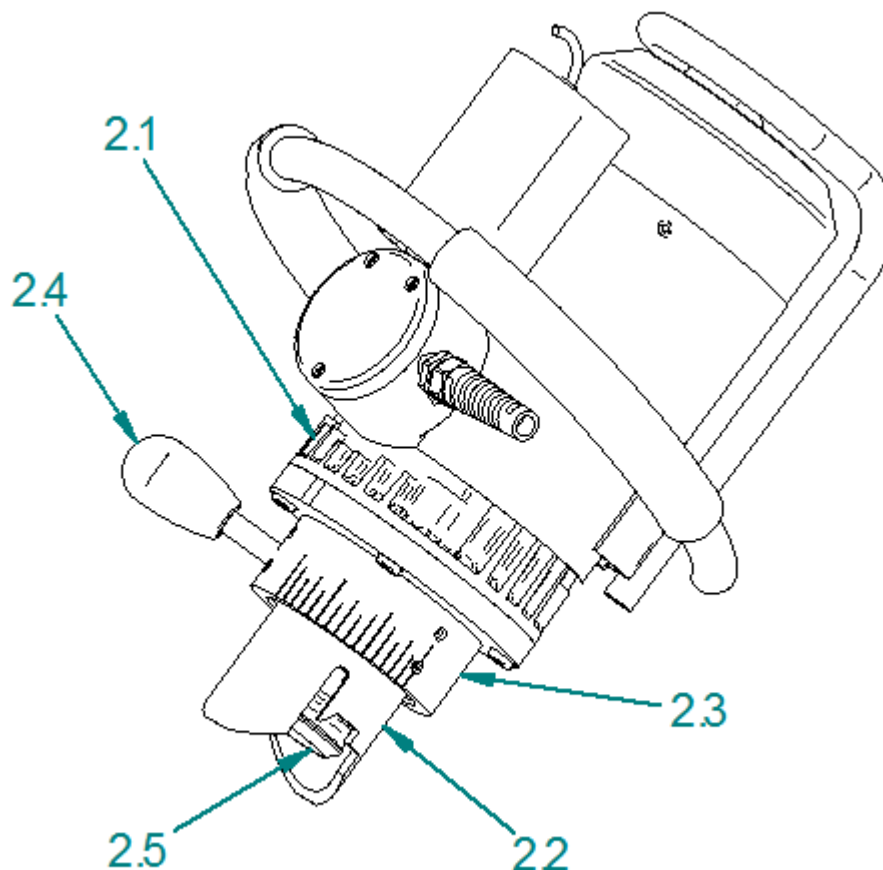

Fig. 4 Milling unit
1. Disconnect milling unit (fig.4)
- c) Turn driving ring into highest position (milling head max. rearward) by means of driving ring lever (fig. 4 item 2.4)